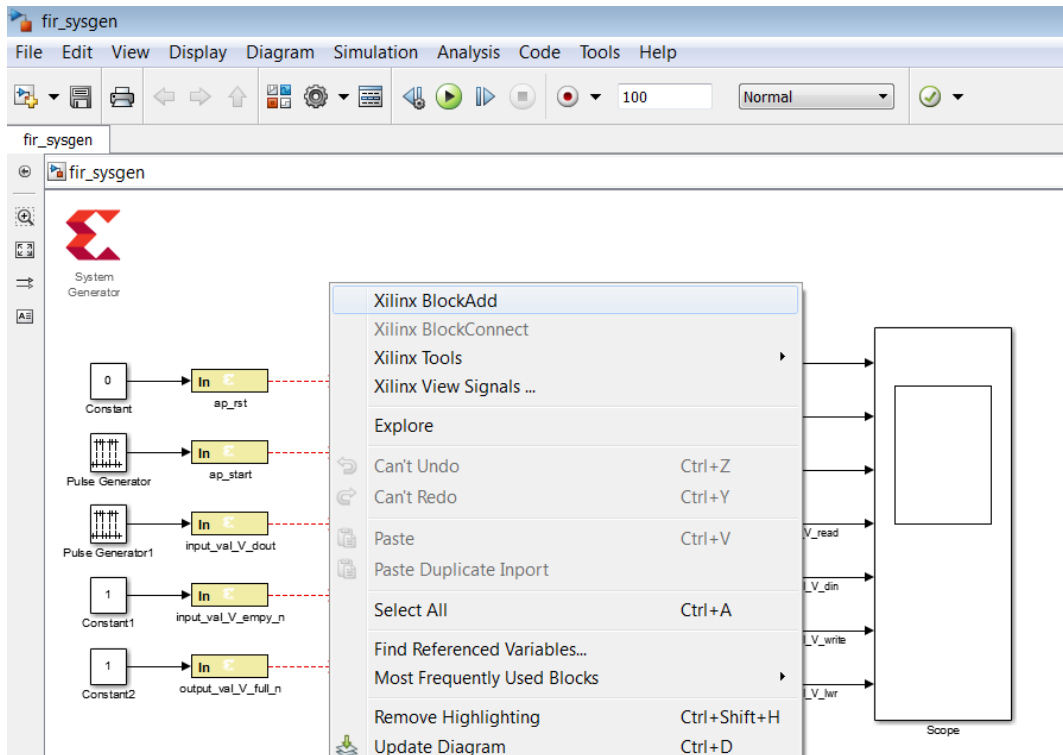

Figure 272: Adding an new Block
4. Right-click in the canvas and select **Xilinx BlockAdd**, as shown in **Figure 272**.